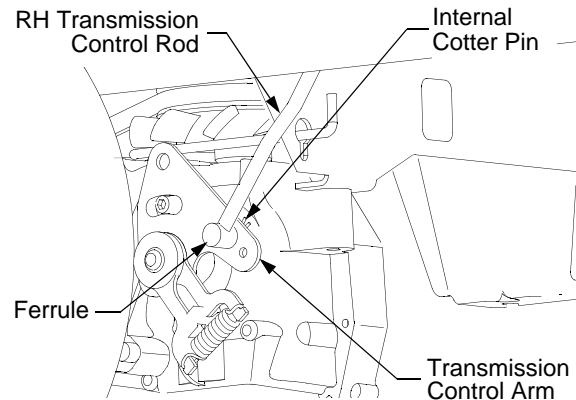

Figure 23
- If only one wheel is rotating, locate the transmission control rod beneath the frame at the front of the rear tire. If both wheels rotate, locate both control rods. See Figure 23.